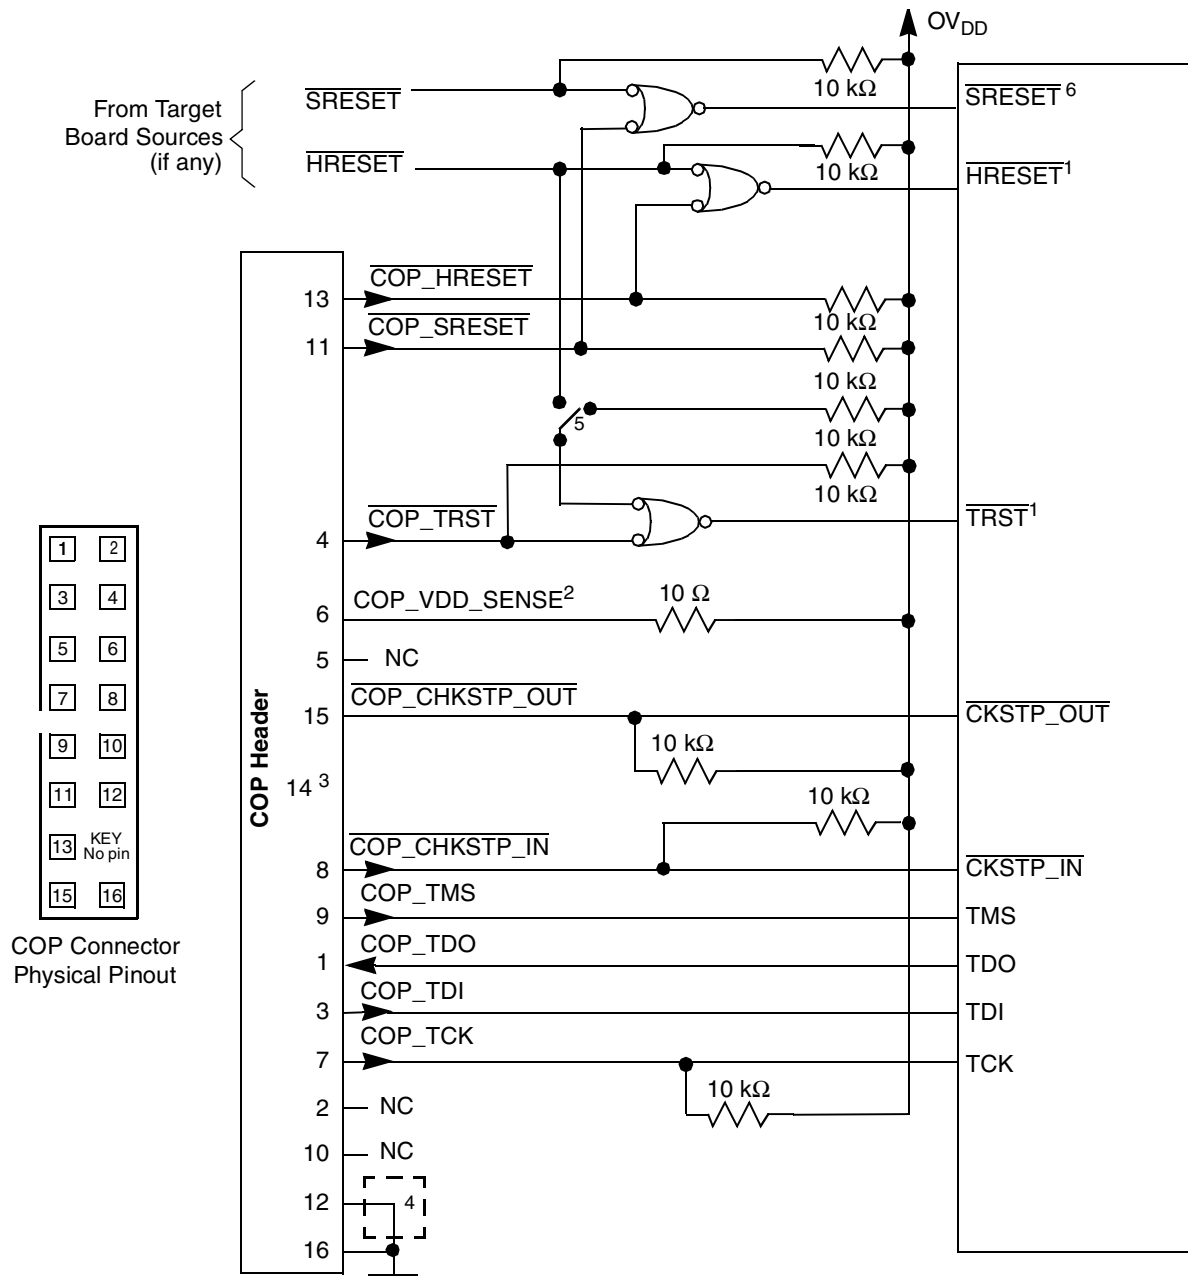

Figure 53. JTAG Interface Connection
Correct operation of the JTAG interface requires configuration of a group of system control pins as demonstrated in Figure 53. Care must be taken to ensure that these pins are maintained at a valid deasserted state under normal operating conditions as most have asynchronous behavior and spurious assertion give unpredictable results.
- $\overline{\text{TRST}}$ should be tied to $\overline{\text{HRESET}}$ through a 0 k Ω isolation resistor so that it is asserted when the system reset signal ($\overline{\text{HRESET}}$) is asserted, ensuring that the JTAG scan chain is initialized during the power-on reset flow. Freescale recommends that the COP header be designed into the system as shown in Figure 53. If this is not possible, the isolation resistor allows future access to $\overline{\text{TRST}}$ in case a JTAG interface may need to be wired onto the system in future debug situations.